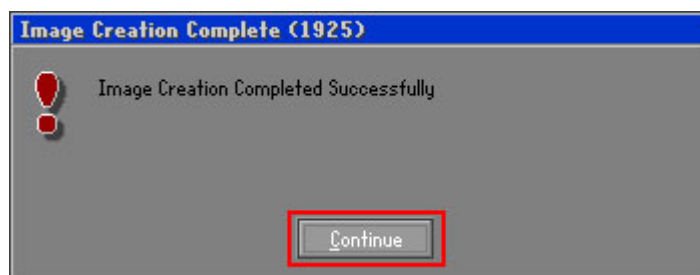

Figure C-20: Image Creation Complete
Step 11: When the image creation completes, a screen prompts as shown in Figure C-20.